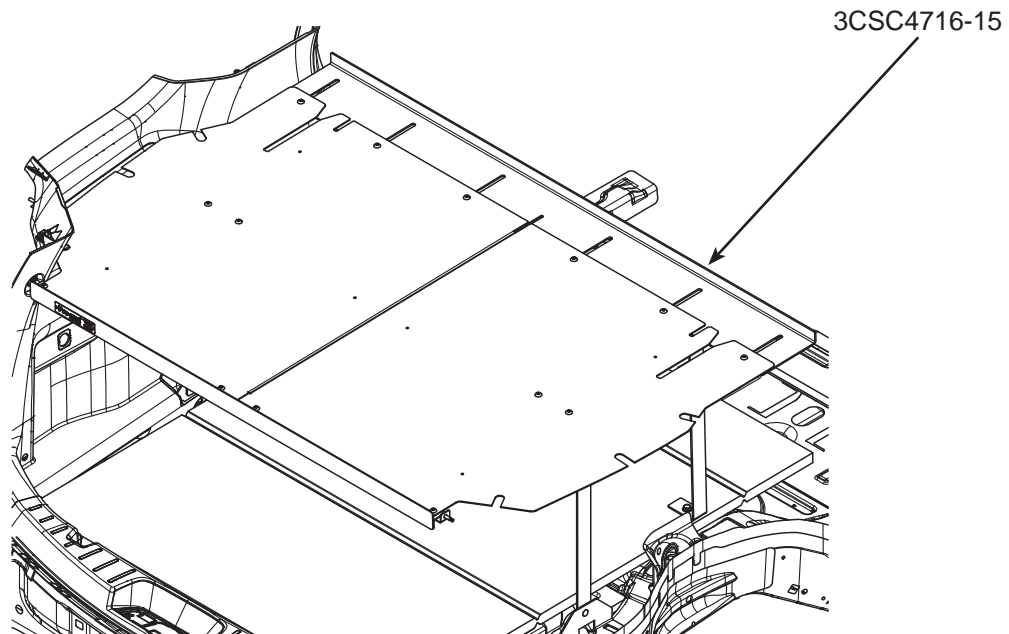

Figure 5
- B. Slide the 3CSC4716-15 Shelf Extender into place between shelves 3CSC4716-01 & 02 and brackets 3CSC4716-13. Align the slots of 3CSC4716-15 with the corresponding holes in the shelves and brackets. Loosely secure them with the 3X03 bolts threading them into weldnuts on the brackets using the aligned hole locations. There are a few holes that require a 3X16 nut, instead of a weldnut. Adjust the shelf extender to the desired location, then tighten all fasteners securely. See Figure 5.